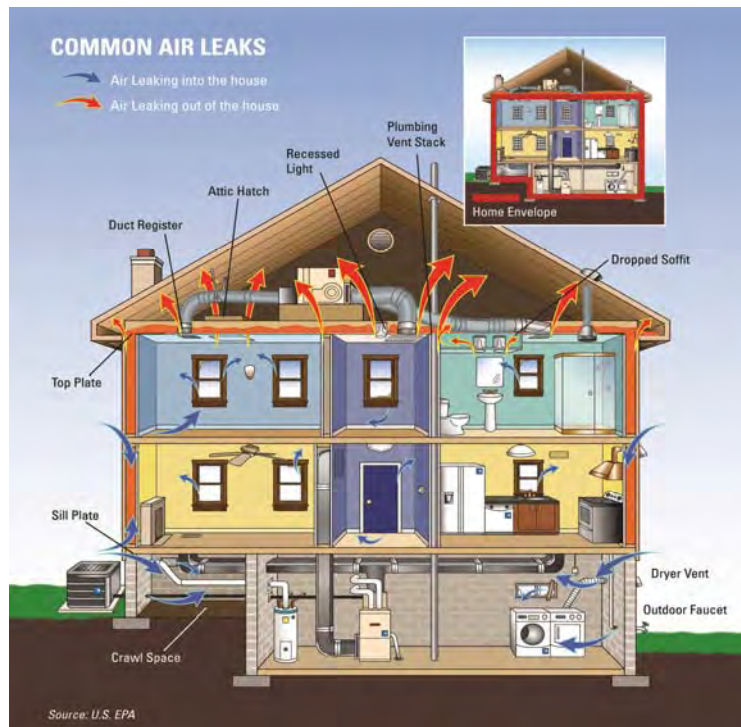

Figure 3: Typical Sources of Air Leakage
- Figure 3: Common Air Leaks ©U.S. Environmental Protection Agency